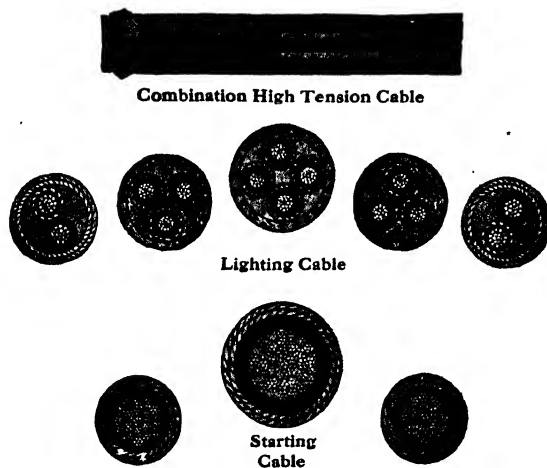

Fig. 111. Types of Cables Employed in Electrical Equipment of Automobiles
**Wiring.** *Necessity for High-Tension Cables.* Mention has been made of the fact that in early days much trouble was experienced with poorly insulated and poorly mounted wires. This was particularly the case with the secondary circuits, the insulation of which was frequently inadequate to carry currents at the high potentials employed, so that there was more or less leakage. This was further aggravated by the chafing, or rubbing, of these wires against moving parts. The former trouble was eliminated by the adoption of specially constructed cables which are tested to carry 30,000 volts. Cables of this type are illustrated in Fig. 111, which also shows the cables employed for electric lighting and starting installations, where the chief difficulty has usually been the selection of a cable of too small a carrying capacity for the current used.